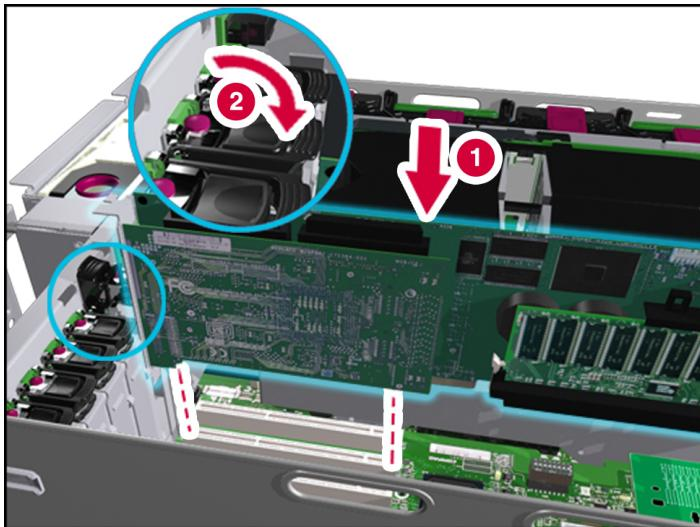

Figure 4-12: Installing the array controller board
11. Install the optional array controller board (1) as shown in Figure 4-12 and close the expansion slot release lever (2). Close the full-length self-latching slot-keeper feature.